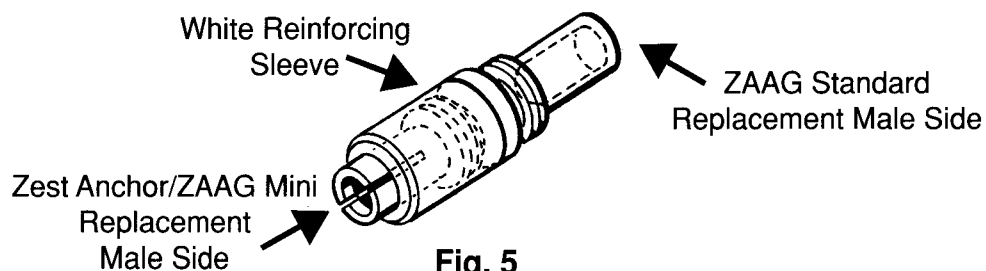

Fig. 5
- a) The ZEST Replacement Male and ZAAG **Mini** Replacement Male fit into the slotted end of the threaded Seating Tool insert. **CAUTION: Make sure the white reinforcing sleeve is in place to avoid breaking the slotted end of the tool.** (Fig. 5)
- b) The ZAAG **Standard** Replacement Male fits into the end of the Seating Tool insert without a slot. (Fig. 5)